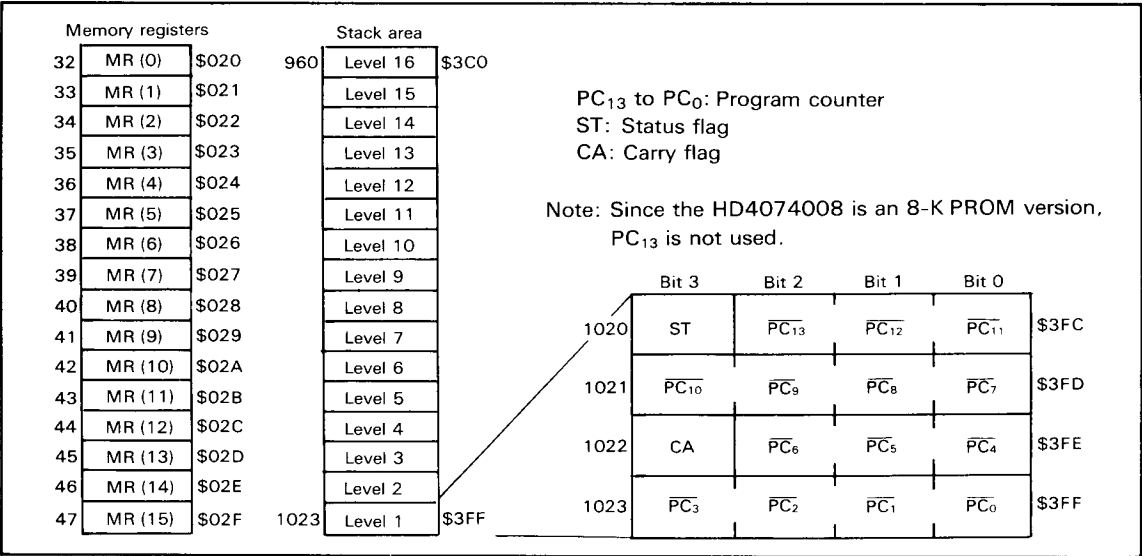

Figure 4 Configuration of Memory Registers, Stack Area, and Stack Position
Data Area (\$020 to \$1DF): The 16 digits of \$020 through \$02F are called memory registers (MR) and are accessible by the LAMR and XMRA instructions (figure 4).
tion) and interrupts are processed. This area can be used as a 16-level nesting stack in which one level requires 4 digits. Figure 4 shows the save condition. The program counter is restored by the RTN and RTNI instructions. Status and carry flags are restored only by the RTNI instruction. This area, when not used as a stack, is available as a data area.